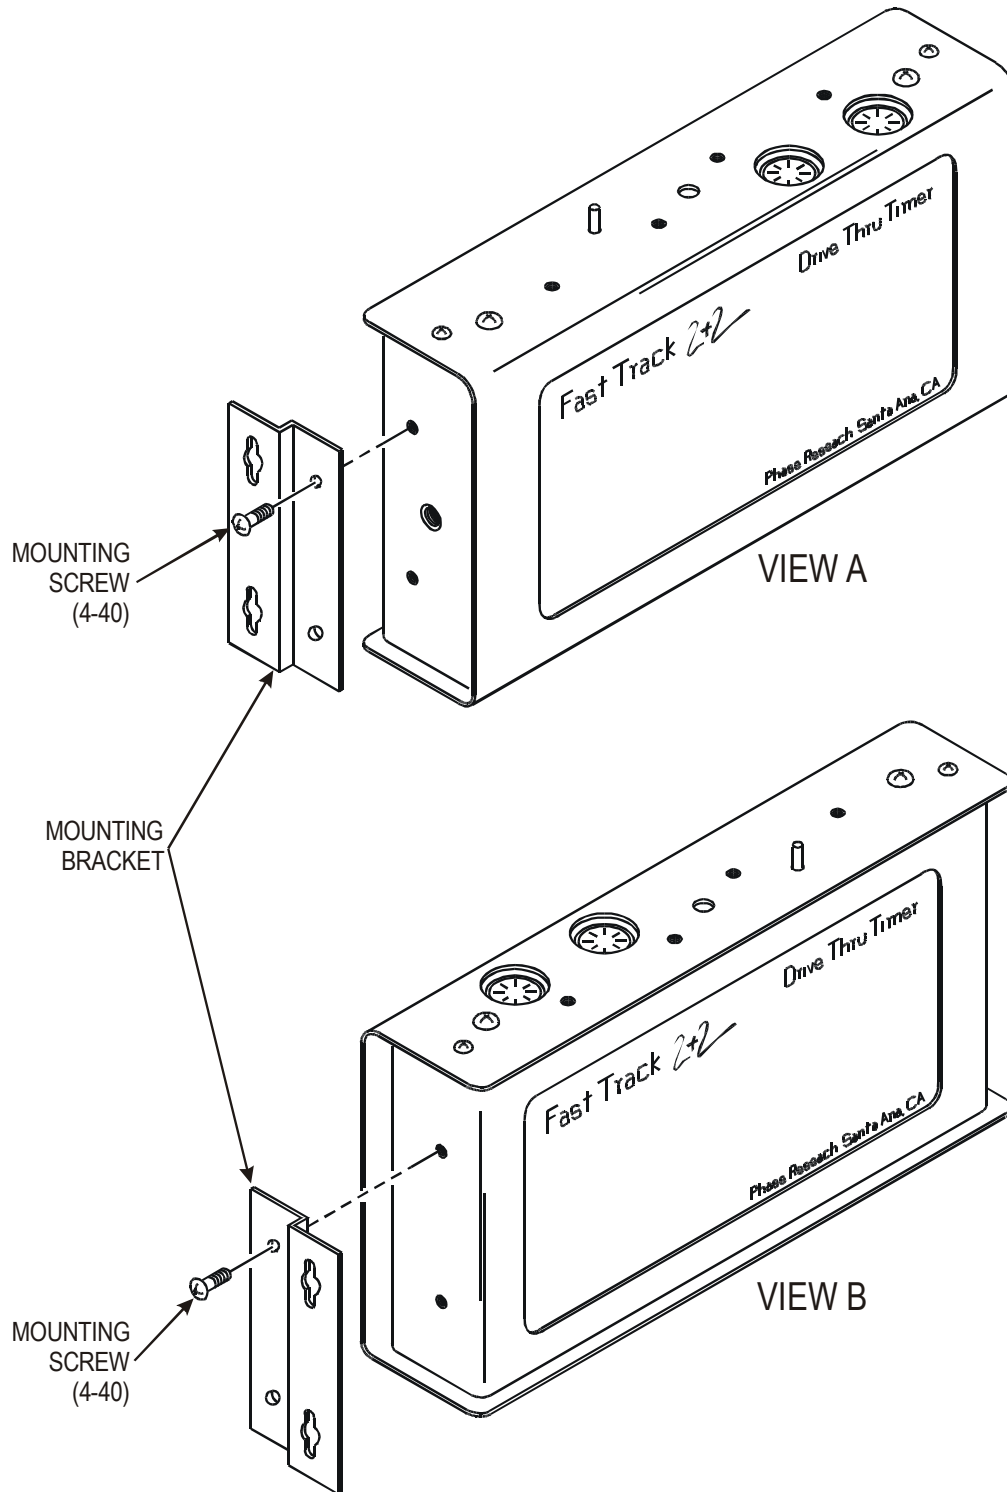

Figure 7-3. Vertical Surface Mounting
*(See Figure 7-3)*
3. Install the vertical surface mounting bracket to either side of the Remote Display as shown in Figure 7-3 and secure bracket to Remote Display with two 4-40 screws (furnished with bracket).